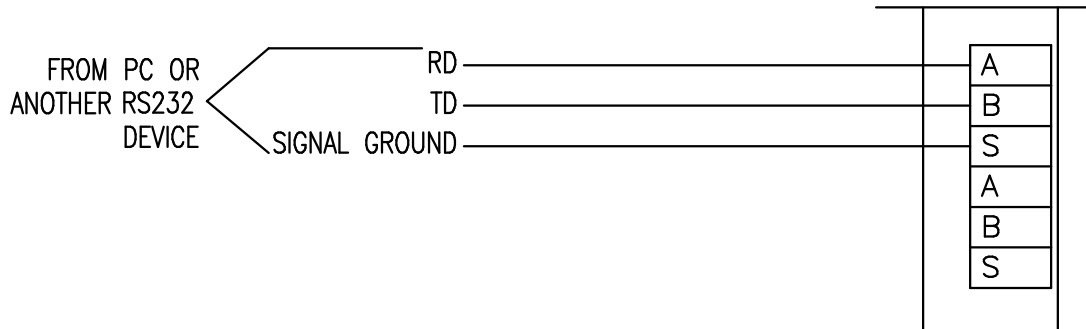

Figure 11 – Wiring diagrams for RS232 and RS485
The connections on the CT224 are labeled as A, B, and S. The two signal wires are A and B. The A terminal should be connected to the A terminal on the RS232 to RS485 converter. The B terminal should be connected to the B terminal on the RS232 to RS485 converter. The S terminal should be connected to the shield. The shield wire should be connected to ground in **one location only**, to avoid ground loops, which can cause erratic communications. Refer to Figure 11 for a wiring diagram.
Terminal A is the Transmit Data (TD) connection, terminal B is the Receive Data (RD) connection, and terminal S is the Signal Ground (SG) connection on the CT224. RS232 devices require Terminal A connected to Receive Data from the master device, Terminal B to Transmit Data from the master device, and terminal S to Signal Ground. For a 9-pin D-Sub connector on a PC, connect A to pin 2, B to pin 3, and S to pin 5. Caution should be taken when using RS232, as it is not isolated. This could cause ground loops through devices, which could cause damage to the CT224 and / or other devices. Refer to Figure 11 for a wiring diagram.